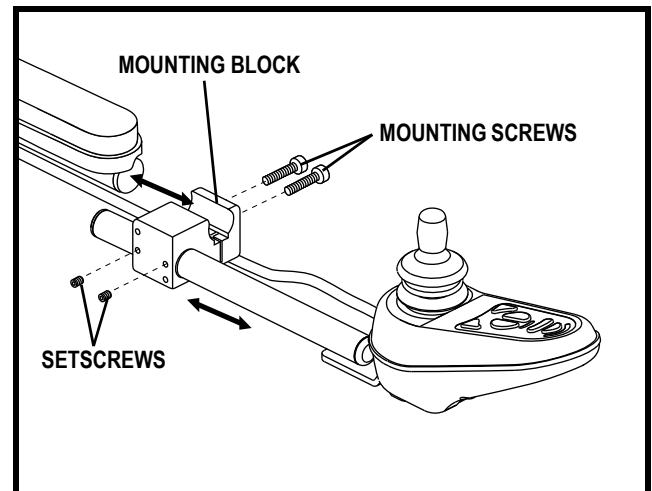

Figure 19. Controller Position (Standard Mounting Block Shown)
4. Loosen the mounting screws in the controller mounting block. See figure 19.
1. Loosen the setscrews in the mounting block. See figure 19 or 20.